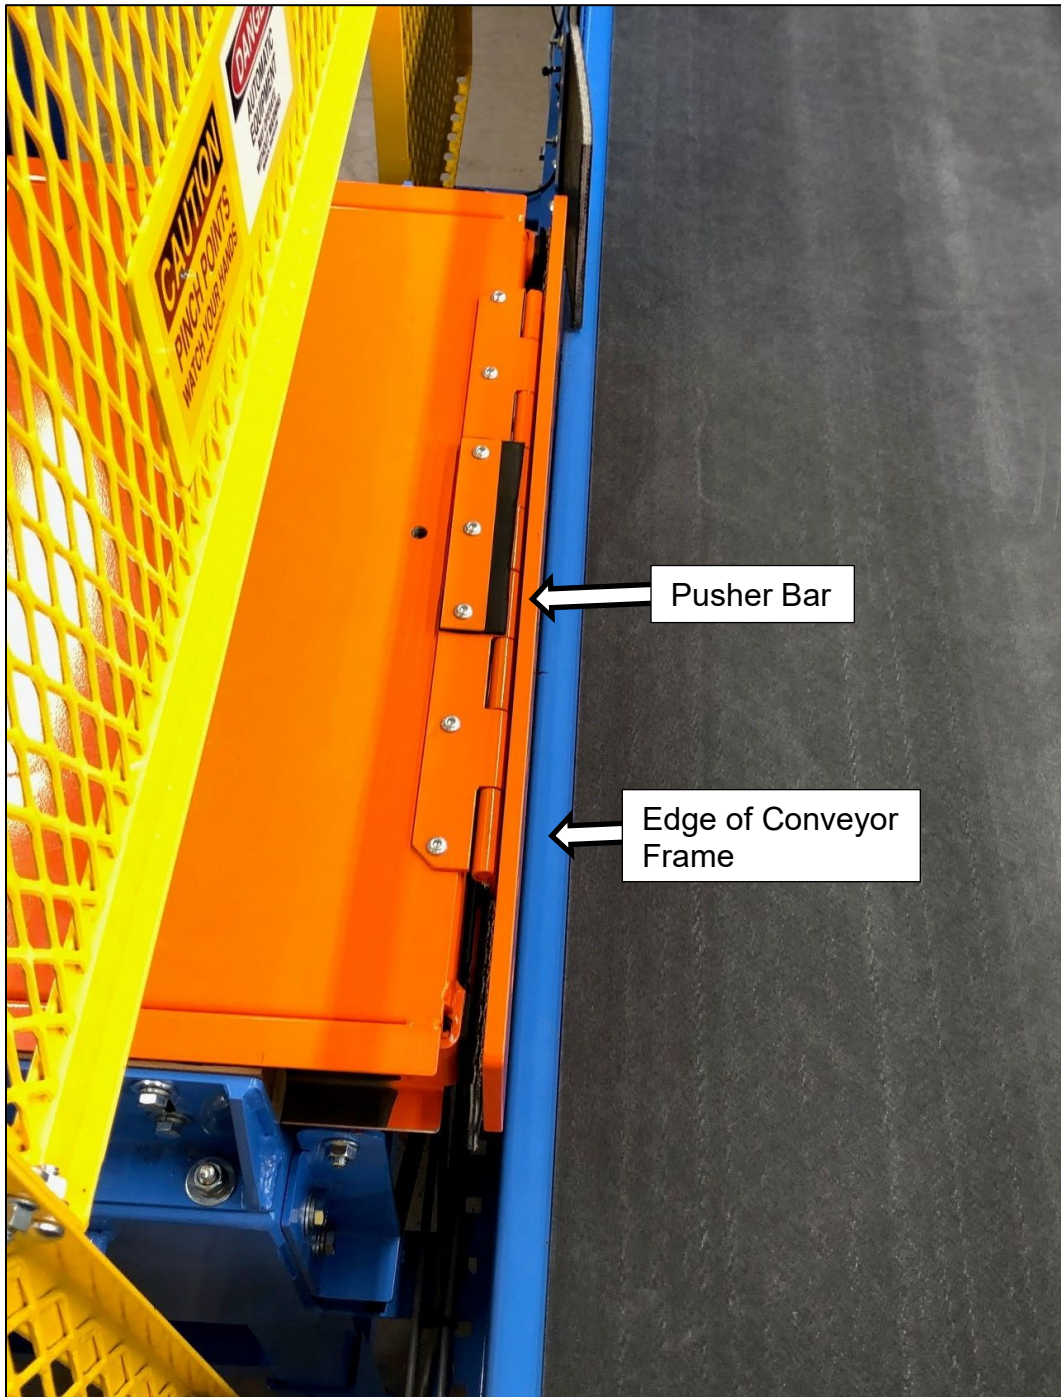

Figure 7. Sight Line of Pusher Bar – Edge of Conveyor Frame
- c. Verify the pushrod length is adjusted correctly by sighting down the length of the pusher bar. Verify it is evenly aligned to the edge of the conveyor frame. (Figure 7). If the pusher bar is aligned to the conveyor frame (+/-1/4-inch both sides), the pusher rod length is correct.